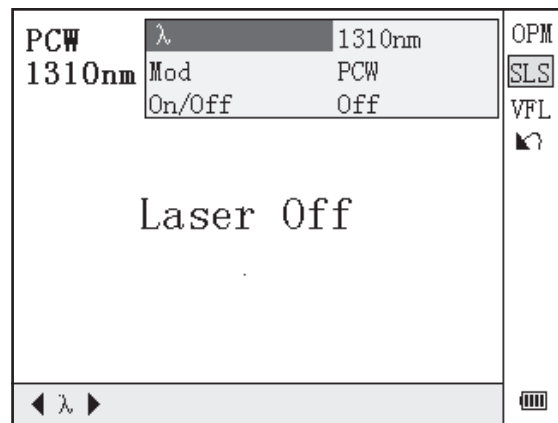

Figure 4-13. Stabilized Laser Source Setting
2. Use ◀ and ▶ to toggle between SLS working wavelengths. Press **Enter** to enter SLS setting interface (Figure 4-13).